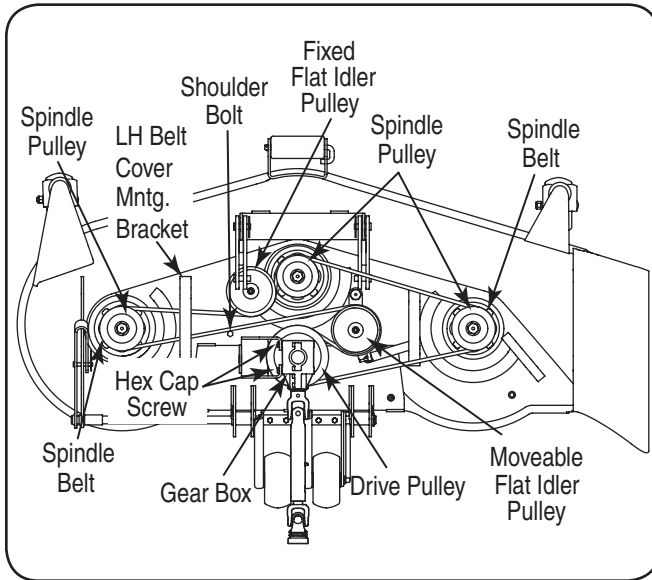

Figure 27
A worn spindle belt will affect the quality of cut from the mower deck and should be replaced. Referring to Figure 27, replace the spindle belt as follows:
- Remove the two hex screws securing the LH belt cover to the deck. Slide the belt cover tabs from the slots of the deck index bracket to remove the cover. Refer to Figure 27
- Slide the belt off and over the LH spindle pulley, then pull the belt under the LH belt cover mounting bracket. See Figure 27.
- Route the backside of the belt around the back and right of the movable flat idler pulley as shown in Figure 27.
- Loop the belt and route in front of the shoulder bolt toward the left side of the deck. Slide the loop of the belt underneath the LH belt cover mounting bracket, and place the belt in the groove of the LH spindle pulley. See Figure 27.